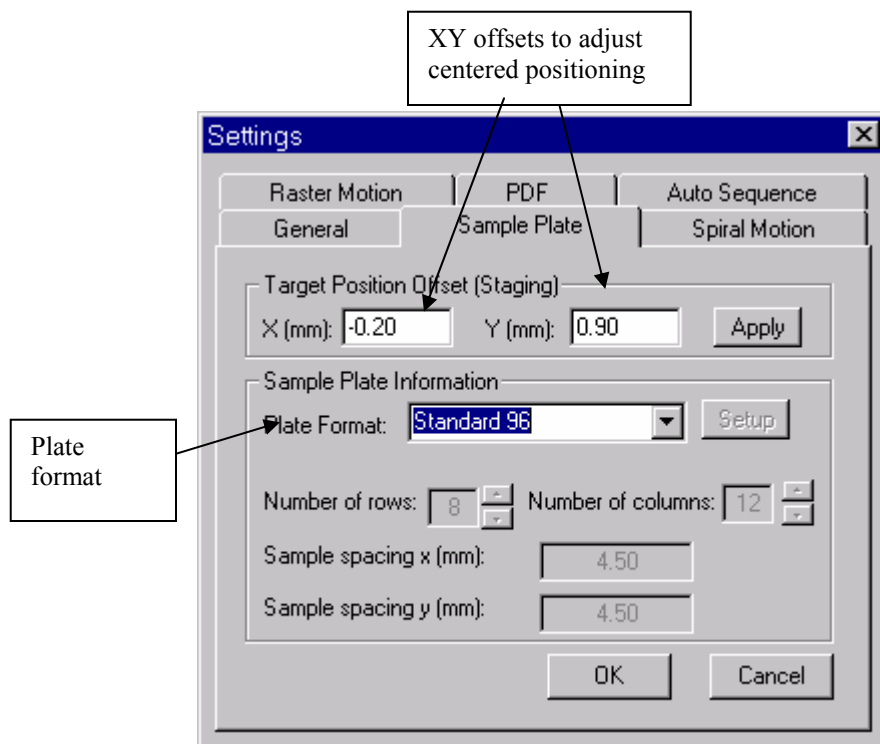
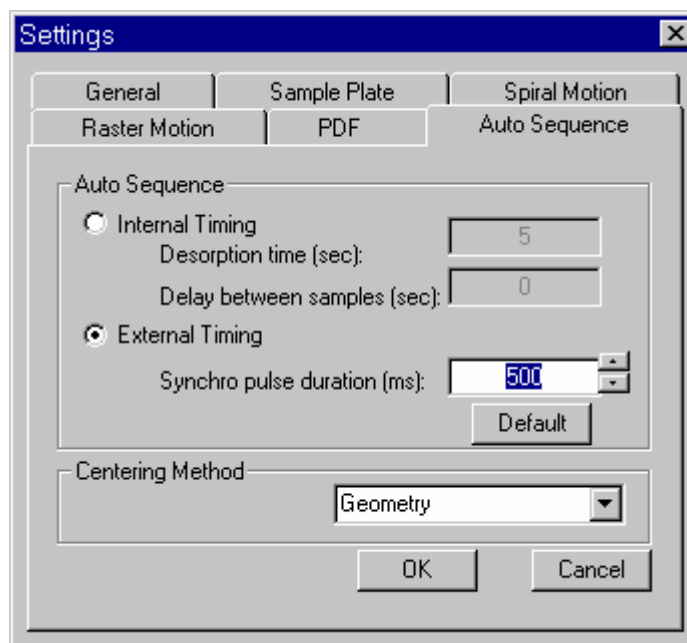

Fig. 7-14 Sample Plate settings in the Target software.
Fig. 7-22 Auto Sequence settings
The settings for the AutoSequence can be found in the Settings menu and are shown in Figs. 7-22 and 7-23. Internal timing is used when the AP/MALDI PDF Control Unit changes sample spots and performs AP/MALDI PDF while the LC/MSD instrument continuously acquire data (a single file for multiple samples). External timing is used when the AP/MALDI PDF Control Unit sends out start commands to the LC/MSD trap, and acquires mass spectra in separate files (one file for each sample).
2. **Check** the “AutoSequence” button is activated in the main *TARGET* software window (see Fig. 7-14) and **check** the “External Timing” radio button in the *TARGET*’s “Settings Dialog” window (see Fig. 7-22).